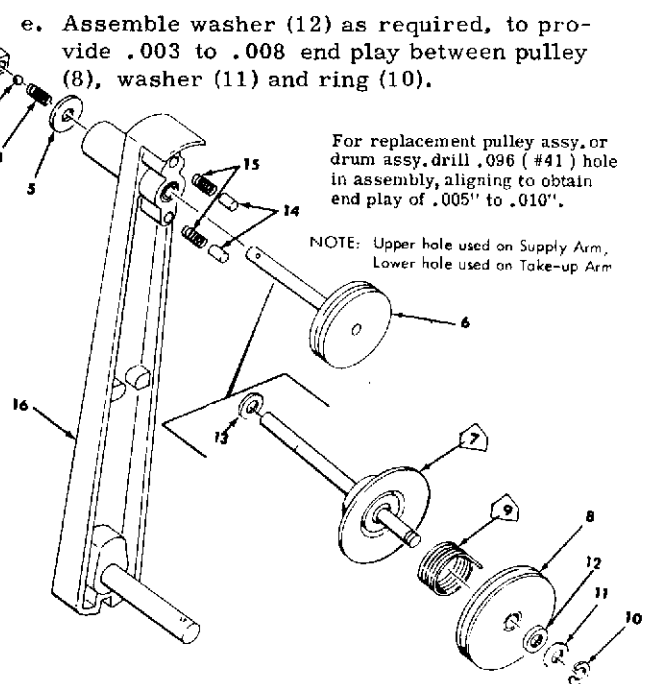

Figure 3-19. SUPPLY AND TAKE-UP REEL ARMS COMPLETE
**7. Arm Complete, Supply & Take-Up (Fig.3-19)**
- a. Drum assembly (7) or pulley (6) must have .005 to .010 end play after assembly.
- b. Clutch (9) must not be nicked during assembly.
- c. Spindle (1) must rotate with smooth brake torque of 2.5 to 4.5 in. oz. after assembly. This does not apply to F.F. take-up.